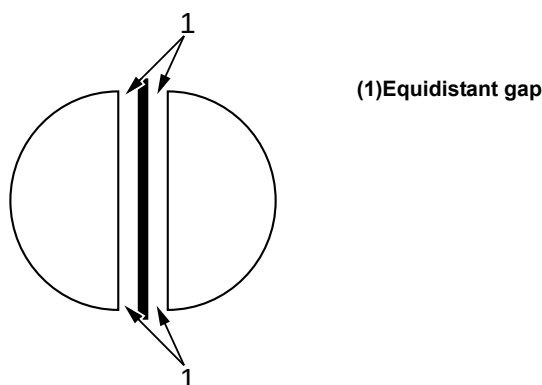

Figure 11-8. Ink Jet Flow Through Charge Electrode
- 6 When ink jet position is correct in the gutter, check the ink jet is flowing through the centre of the charge electrode slot parallel to the sides of the slot (Figure 11-8).